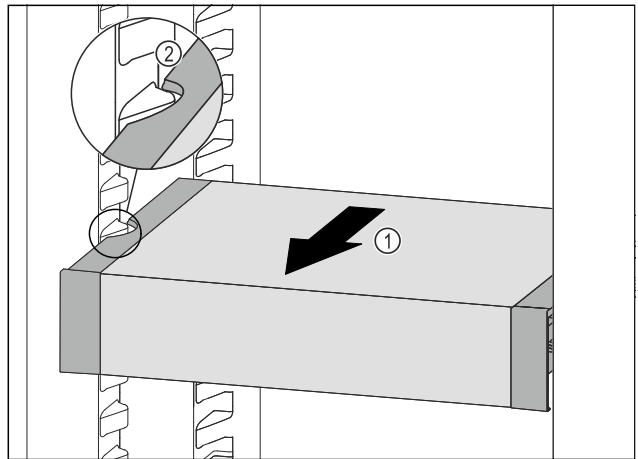

Fig. 124
- ▶ Pull VarioSafe forwards *Fig. 124 (1)* until the recesses in the side of the VarioSafe are at the level of the support rib in the fridge section. *Fig. 124 (2)*